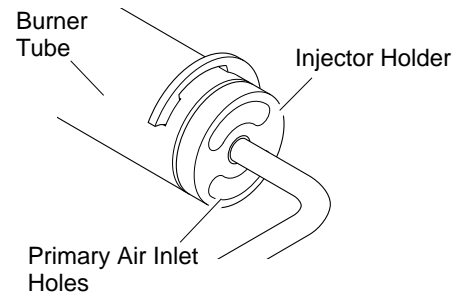

Figure 32 - Injector Holder On Outlet Burner Tube
2. Inspect burners, pilot, and primary air inlet holes on injector holder for dust and dirt (see Figure 32).